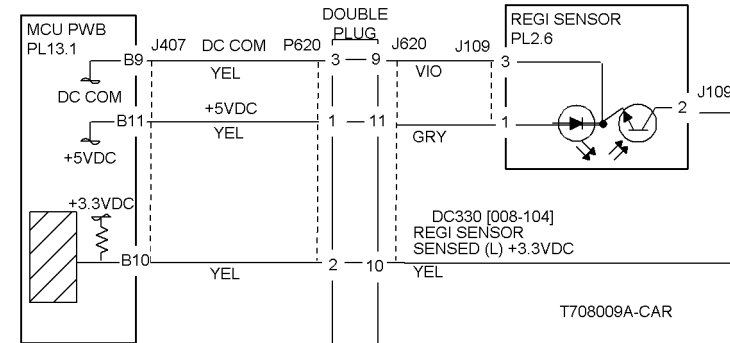
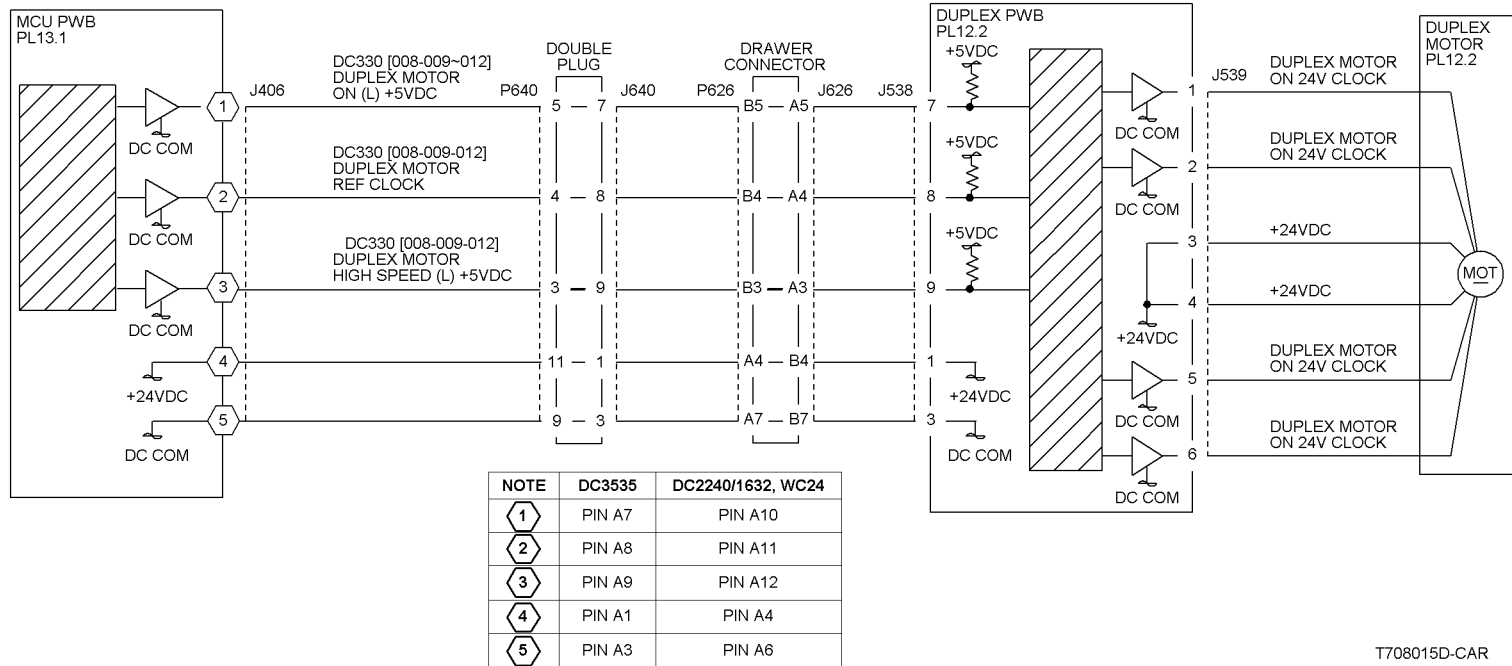
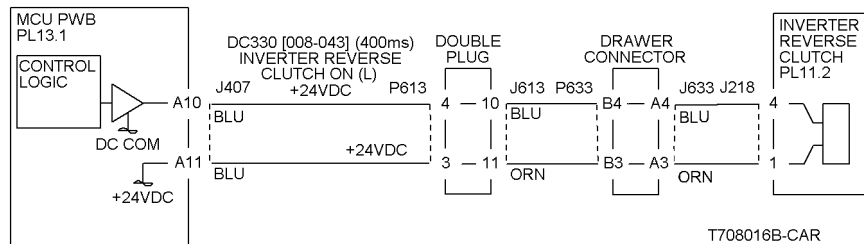

Figure 1 8-180 RAP Circuit Diagram - Registration Sensor
Figure 2 8-180 RAP Circuit Diagram - Duplex Motor
Figure 3 8-180 RAP Circuit Diagram - Inverter Reverse Clutch
Press **Stop**. Check the circuit of the Inverter Reverse Clutch (Figure 3). Refer to the **OF 99-4** RAP for troubleshooting procedure.
- Ensure that the connectors shown in the circuit diagrams (Figure 1, Figure 2, Figure 3) are securely connected and that the wires are not damaged.